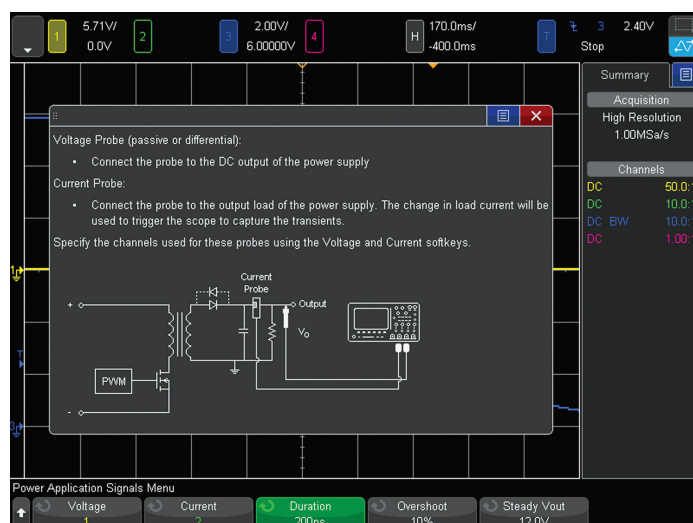

Figure 33. Transient response connections diagram in the Signals menu.
5. Connect the current probe between the scope's channel-2 input to the output current signal on your device under test as illustrated in the on-screen connections diagram shown in Figure 33. If using Keysight's SMPS training kit, connect to the J3 current loop in the direction indicated on the demo board. Note that the current-direction arrow on the current probe should be facing down towards your bench.